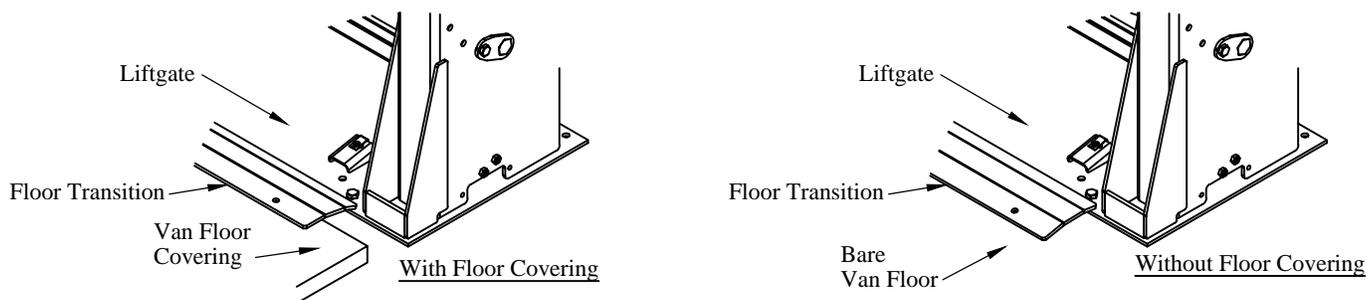

Figure 16: Floor transition.
- 1. Position** the floor transition with one side on the liftgate and the other side on the van floor (Figure 16).